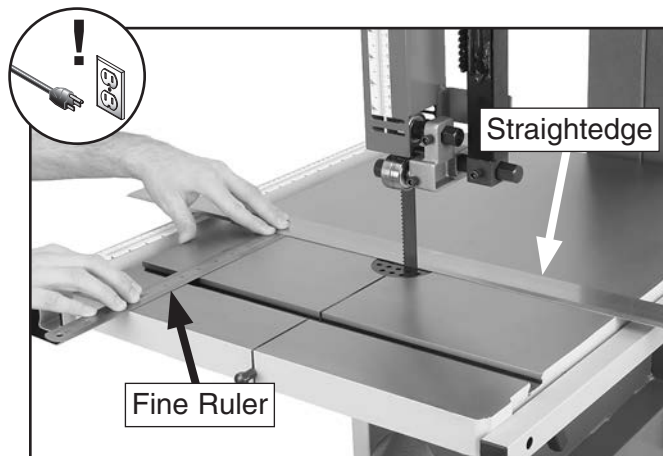

Figure 55. Checking miter slot parallelism.
3. Place an accurate straightedge along blade so that it lightly touches both front and back of blade without going across a tooth (see **Figure 55**).
4. Use a fine ruler to measure the distance between the straightedge and the miter slot (see **Figure 55**). The distance should be the same at the front and the back of the table.